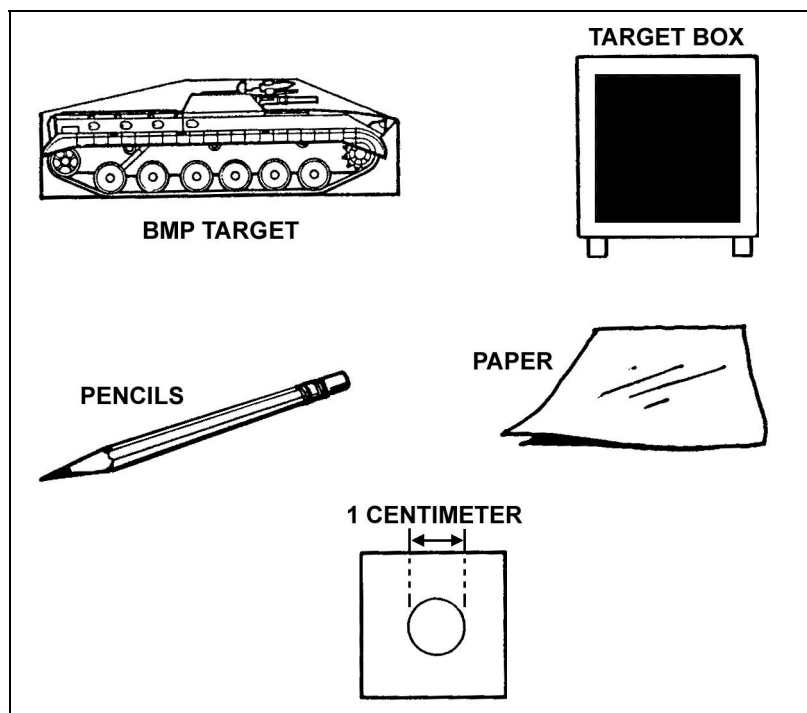

Figure 4-9. MK 19 target board.
(2) The second sighting and aiming exercise, used with the MK 19 and target board, allows the gunner to apply lessons learned during the first exercise. Place the target board 10 meters from the muzzle of the MK 19 (Figure 4-9). Use the T&E mechanism to get the correct sight picture on each target that is called out. When the gunner feels he can sight and aim, the coach checks and critiques the gunner's ability to change from the start point on the target board to any new target called by the coach.